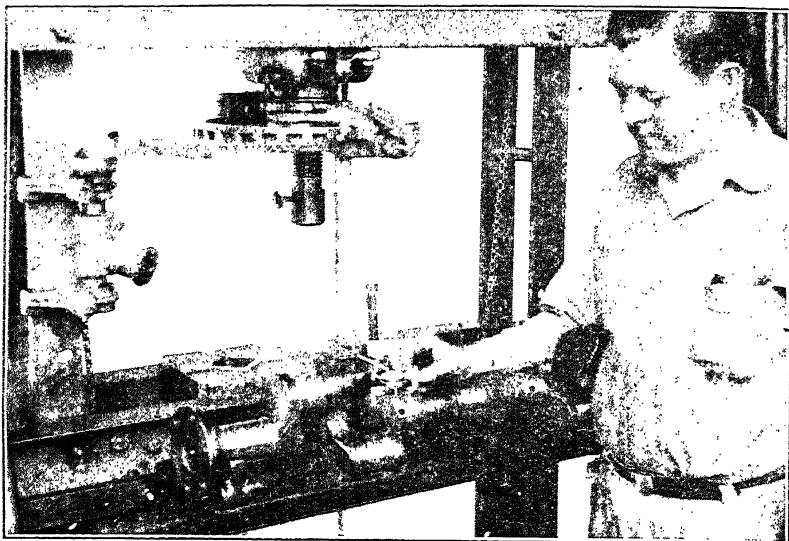
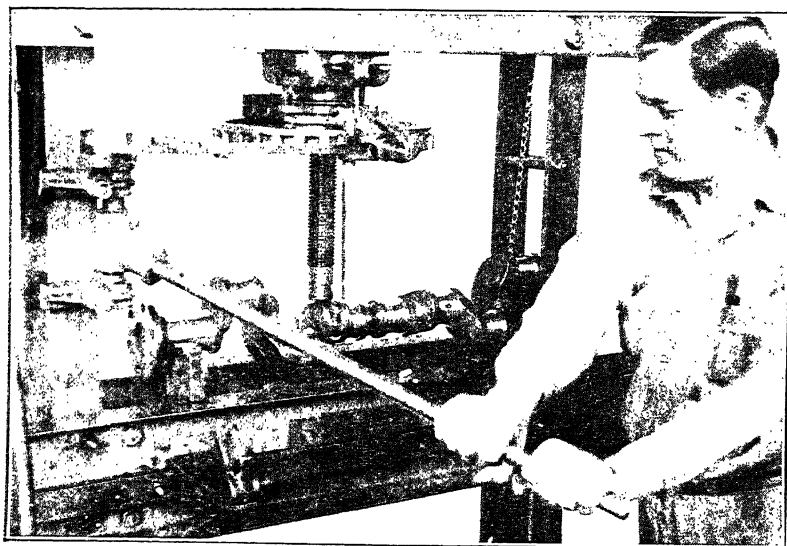

Fig. 18. Testing Crankshaft on "V" Blocks for Straightness
Fig. 19. Using an Arbor Press to Straighten a Crankshaft
**Testing Crankshaft for Straightness.** Before attempting to scrape bearings or refit them when the crankshaft shows considerable signs of wear, there are several tests which should be used. One of these is illustrated in Fig. 18, which shows a dial gauge which has been set up with the crankshaft in the V blocks of the arbor press. The workman is marking the high spot on the crankshaft, which has been discovered by rotating the crankshaft in the V blocks, with the dial gauge on the rear center main bearing. This particular shaft was found to be out .033 inch. The workman also marked the direction in which the force should be exerted when straightening the shaft, as will be noted in Fig. 19, which shows the same shaft in the arbor press.
**Straightening Crankshaft in Arbor Press.** Fig. 19 illustrates the method of setting up the crankshaft on the V blocks in the arbor press and applying pressure to the rear center main in order
to force it in the direction indicated by the arrowhead, placed on the shaft when it was tested, as illustrated in Fig. 18.
It will be found, when applying pressure to a crankshaft in order to straighten it, that considerable force will be necessary. In other words, it will be necessary to force the shaft a considerable distance past center in order to spring it back to its normal form. For this reason it is a good plan to make a number of tests to see how the work is proceeding. If a hydraulic press is used, the pressure gauge will show the pressure applied at any time. Where a screw press is used, as shown in Fig. 19, it is a good plan to mark the travel of the large wheel so that on each succeeding attempt the wheel may be turned a bit further than on the former one and the exact point of stoppage noted. A chalk mark on the wheel will serve for this.
Crankshafts are made from nickel steel, as a general rule, and for this reason are quite "springy." By using care, the ordinary case of sprung crankshaft may be remedied. The crankshaft should be brought within .002 inch of straight when tested, as shown in Fig. 18.